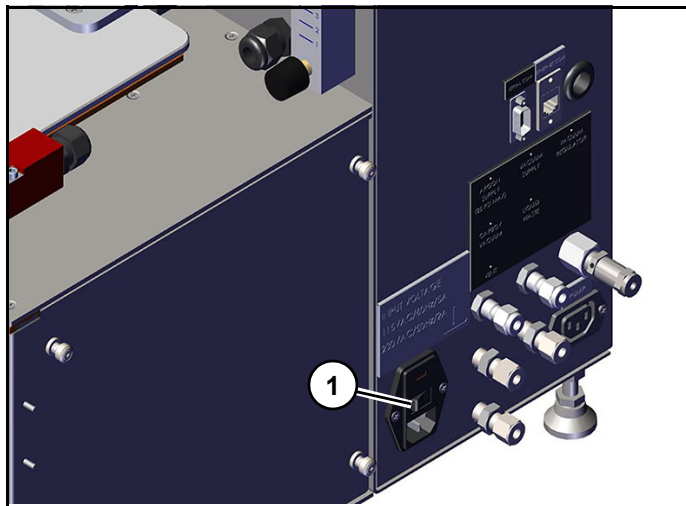

Figure 7
Push Power Button (1) (*Figure 7*) to stop instrument in an emergency.
In case of emergency, operator can disable instrument by turning off power button (1) (*Figure 7*) to cut power to synthesizer. This will close all valves, stop all motion and release motor so that slide may be moved by hand.
Note: (*Figure 7*) shows power button on side of instrument. Some instrument models may have power button on back of instrument,